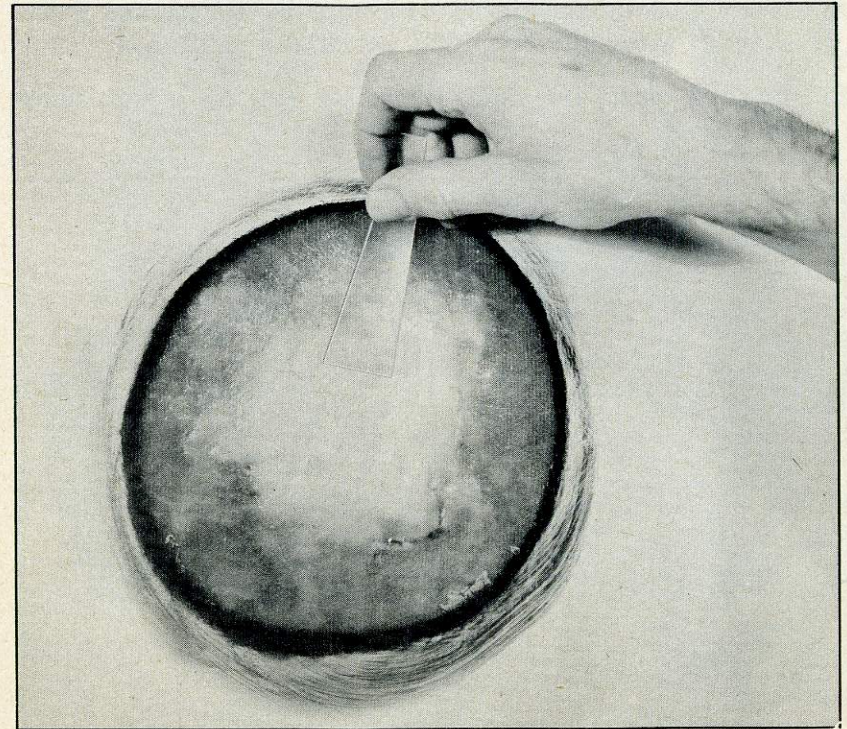

Figure 17
15. Liberally apply plastic mixture with a spatula to the exterior of the body in and around the hole. Build up the area sufficiently to allow a surplus of plastic for finishing operations of grinding, filing and sanding (fig. 17).